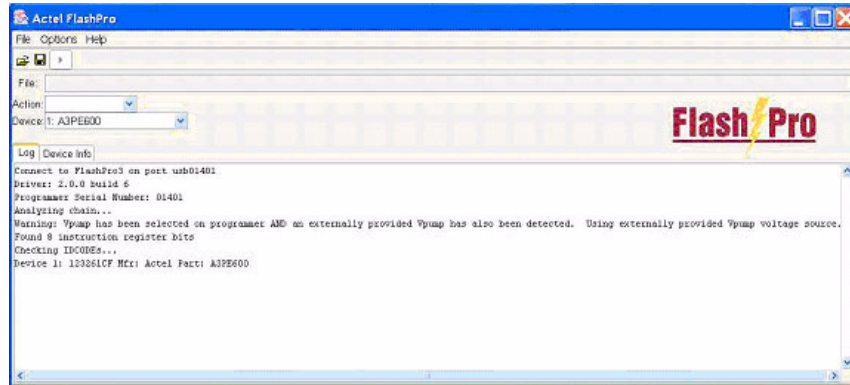

Figure 7-41. FlashPro3: Analyzing Chain—A3PE600
1. From the File menu, click **Analyze Chain**. Chain details appear in the Log window, as shown in Figure 7-41.
If you have an A3PE600 device on board, you will see the message shown in Figure 7-41.